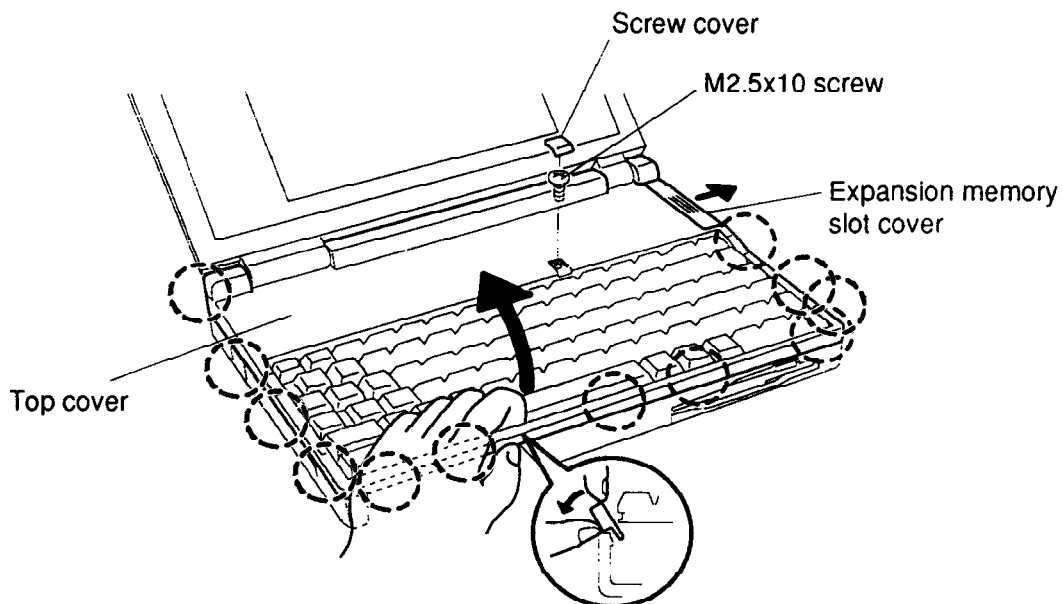

Figure 4-6 Unlatching the Top Cover
5. Open the **expansion memory slot cover** on the right side of the unit (Figure 4-6).
6. Using a jeweler's screwdriver, remove the **screw cover** located above the function keys, then remove the **M2.5x10 screw** (Figure 4-6).
7. Unsnap the **latches** securing the **top cover** to the base assembly. Start by pressing on the front of the **top cover** just in front of the space bar and rotate the keyboard's front edge toward you to release the **front latches** (Figure 4-6).
8. Continue around the rim until all latches are released, then carefully lift up the **top cover** (Figure 4-6).
2. Begin at the back and snap the **top cover** into place. Continue along the sides and snap the front latches last (Figure 4-6).
3. Secure the **M2.5x10 screw** above the keyboard and replace the **screw cover** (Figure 4-6).